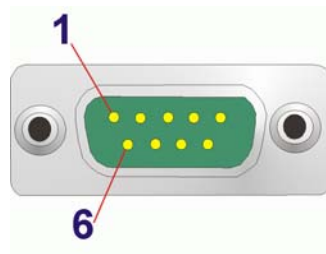

Figure 3-27: COM1 Pinout Locations
- CN Pinouts:** See **Table 3-26** and **Figure 3-27**